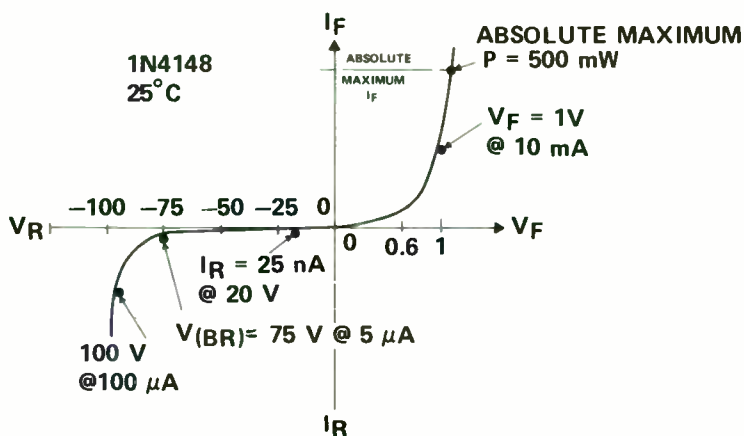

Fig. 6.6
All of these specifications (except  $t_{rr}$ ) can be read directly from an I-V curve, a current-voltage curve of the sort we have just seen. Figure 6.6 shows where each of these points is located on a typical curve.
Refer back to Fig. 6.6 as you read the data sheet, and you'll see which parts of the curve the data are taken from.
*Power dissipation (P)* can be found in the *absolute maximum ratings* table. The rating is shown as 500 mW (milliwatts). This point is shown near the top of the curve of Fig. 6.6. Sometimes, this limit is specified instead in terms of *absolute maximum forward current*.